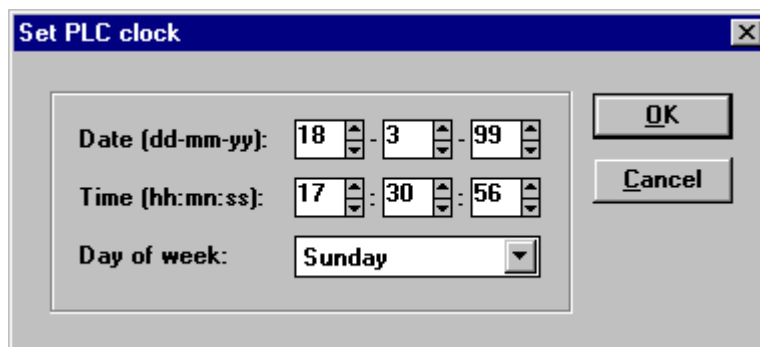

Figure 5-4 : Update of the clock
- ⇒ Through the AC31GRAF software in the configuration window, by clicking on the "Set PLC clock" icon (see Figure 5-4).